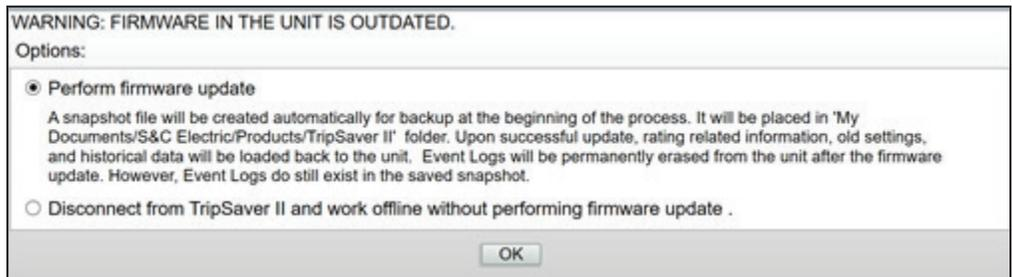

Figure 2. The firmware update Warning dialog box.
STEP 5. Select the **Tools>Firmware Update** option from the **Main** menu, or click on the Firmware Update icon in the quick access toolbar. If the firmware is out of date, a dialog box will appear. See Figure 2.